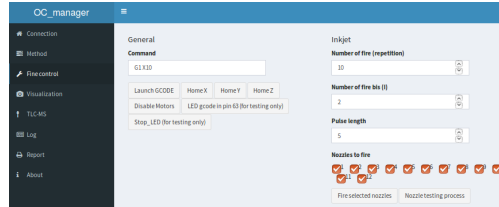

Figure 7: Fine tuning OC manager.
- In the Fine control tab (Figure 7): home the X axis and the Y axis, (if the motor are not in the good direction, turn off the full system and simply reverse the cable on the ramp)